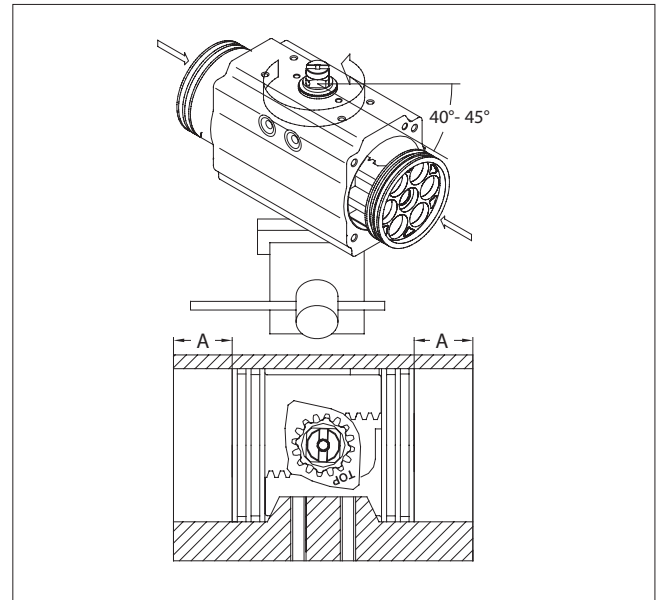

Figure 12.
- E. For standard-rotation assembly (clockwise to close) rotate the body (50) 40 – 45° counterclockwise (if viewing the bottom of the actuator), or clockwise (if viewing the top of the actuator) as shown in (Figure 12).
- F. Press the two pistons (40) simultaneously into the body (50) until the piston racks are engaged and rotate the body clockwise (if viewing the bottom of the actuator), or counter-clockwise (if viewing the top of the actuator), until the stroke is completed.
- G. To ensure that the piston (40) teeth are evenly engaged, fully compress both pistons (40) inward and measure the distance from the edge of the body to the piston (40) face on each side, shown as dimension "A" in (Figure 12). If a different value is obtained on each side, remove the pistons and repeat from step 2d.